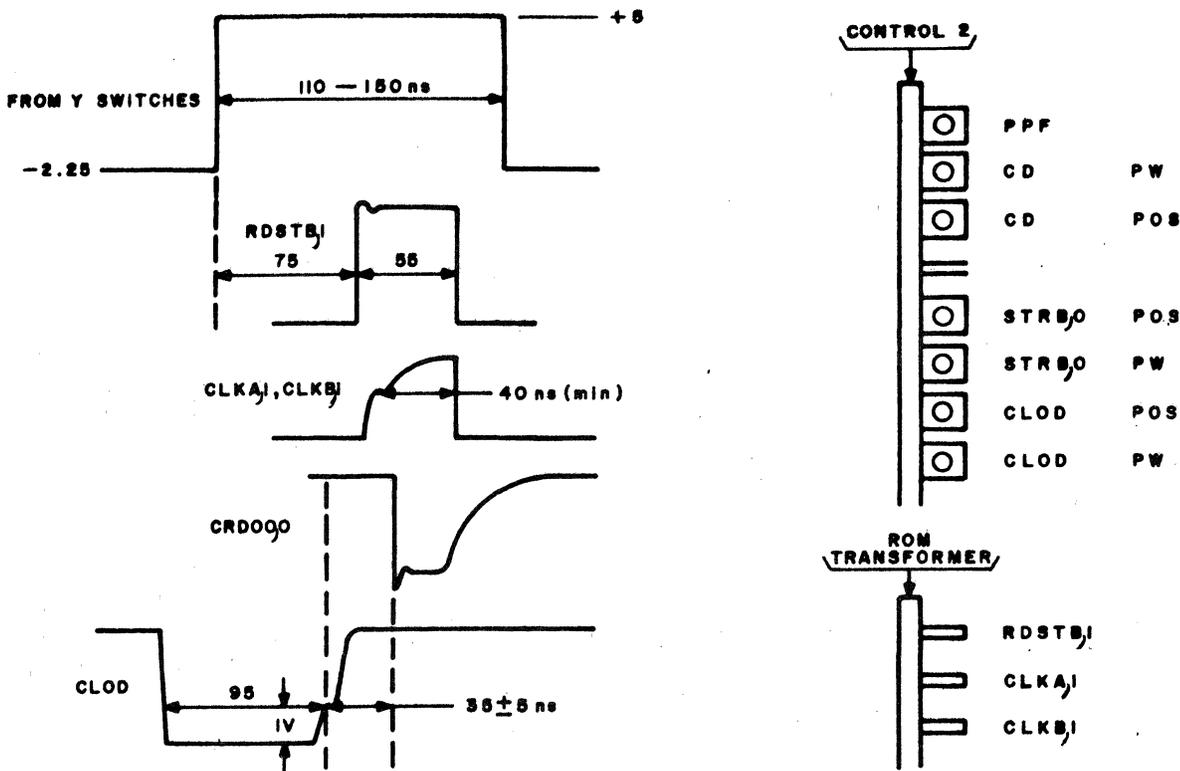

Figure 3. Processor Timing Data
If any of the switch outputs are not within the 110 to 150 nanosecond range, check the associated logic. If the logic is good, synchronize the oscilloscope on CO2 Test Point D and adjust the CD0 pulse width to obtain the correct output. (See Figure 3.)
4. Compare RDSTB1 on the ROM transformer board (Figure 3) and YS151 (pin 013-0 on RMS). RDSTB1 should start 75 ± 10 nanoseconds after YS151. If out of tolerance, and no faulty components are found, adjust STRB0 position to provide the 75 nanosecond difference.
5. Check that STRB0 is 45 to 60 nanoseconds wide. If STRB0 pulse width is out of tolerance, and no faulty components are found, adjust STRB0 pulse width (Figure 3) to 50 nanoseconds.
6. Check the three strobes on the ROM transformer board (Figure 3) and verify that RDSTB1 is coincidental with, or starts later than CLKA1 and CLKB1.
8. Compare the SRD030 ROM output (pin 105 of RMT) and CLOD (CO2 Test Point F). The rising edge of CLOD should occur 35 ± 5 nanoseconds before the falling edge of SRD030. If not, adjust CLOD position (Figure 3).
9. Check that CLOD is 95 ± 5 nanoseconds wide. If necessary, adjust CLOD pulse width (Figure 3).